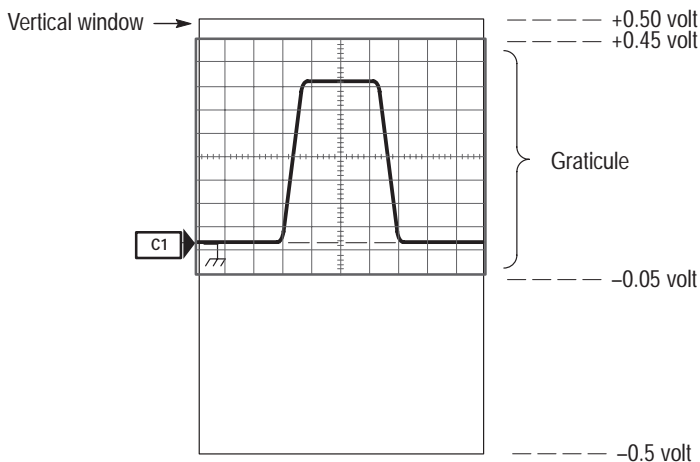

Figure 3–2: Setting vertical scale and position of input channels
- The vertical scale (per division) setting determines the portion of the vertical acquisition window that appears in the graticule, allowing you to scale it to contain all of the window or only part. Figure 3–2 shows two vertical acquisition windows that contain the entire waveform, but only one window contains the entire waveform in the graticule on screen.
**NOTE.** *Amplitude-related automatic measurements (for example, peak-to-peak and RMS) will be accurate for vertical windows like those shown in Figure 3–2 a and b on page 3–14 because neither waveform is clipped (that is, both waveforms are acquired). But if the signal amplitude were to extend outside the vertical acquisition window, the data acquired becomes clipped. Clipped data causes inaccurate results if used in amplitude-related automatic measurements. Clipping also causes inaccurate amplitude values in waveforms that are stored or exported for use in other programs.*
- The vertical position adjusts the display of the graticule relative to the vertical acquisition window (position is a display control). Figure 3–2 b shows how vertical position moves the waveform graticule vertically in the vertical acquisition window to place the acquired waveform in the graticule display. Position does not determine what data is acquired as does vertical offset.